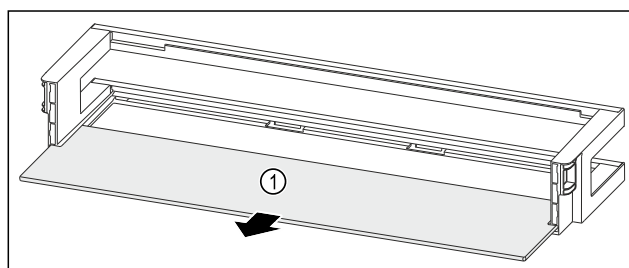

Fig. 211 Door rack with shelf
- ▶ Remove the shelf Fig. 211 (1).